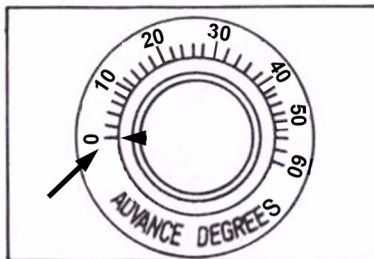

Figure 4
1. Set the knob at "0" position as figure 4.
3. Observe the reading from advance scale as shown on figure 4.